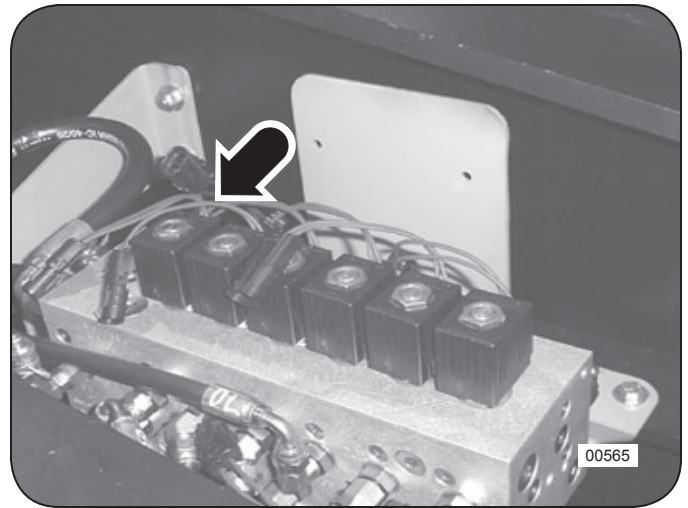

Figure 10: Lower Solenoid Manifold (TF 830 installation shown)
2. Locate and disconnect the parking brake solenoid coil harness at the lower solenoid manifold. See Figure 10. This will prevent the parking brake from releasing.